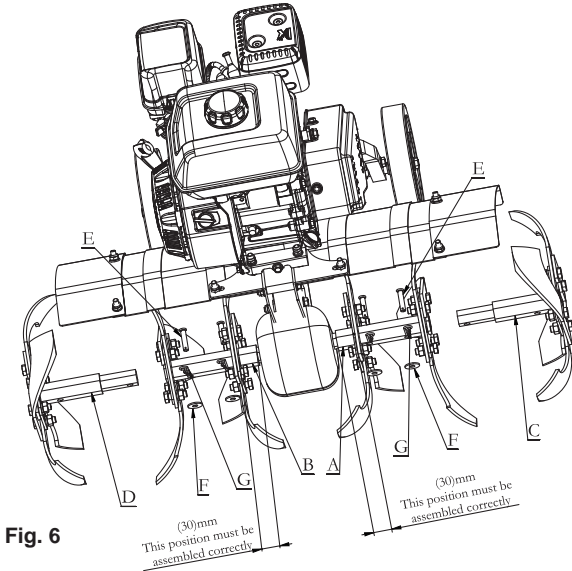

Fig. 6
Step 6 Assemble of the tines (See Figure 6)
- a. Assemble the right main tines kit (A) and to the gearbox output shaft, and then insert the right auxiliary tines kit (C), connect using 2 $\phi 8 \times 40$ pins (E), 2 $\phi 8$ large flat pads (F), and 2 2.5 $\times 40$ B pins (G).